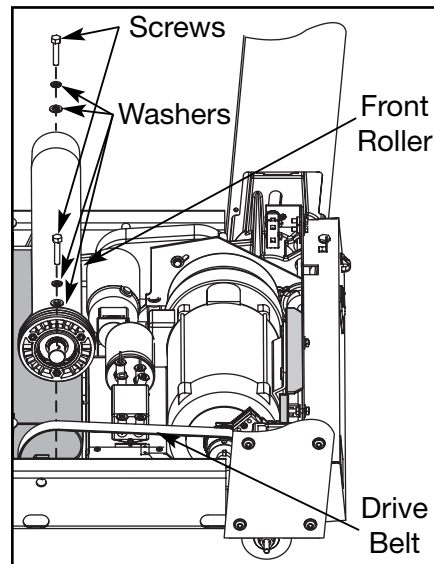

Figure 6
- B.** Loosen and remove the two screws and four washers that fasten the front roller to the front end assembly. See Figure 6.
- A. With the drive belt around the drive pulley and the front roller, loosely attach the two bolts and four washers that fasten the front roller to the front end assembly. See Figure 6. Tighten each of the two bolts evenly. Make sure not to tighten one bolt too many turns before moving to the other bolt.